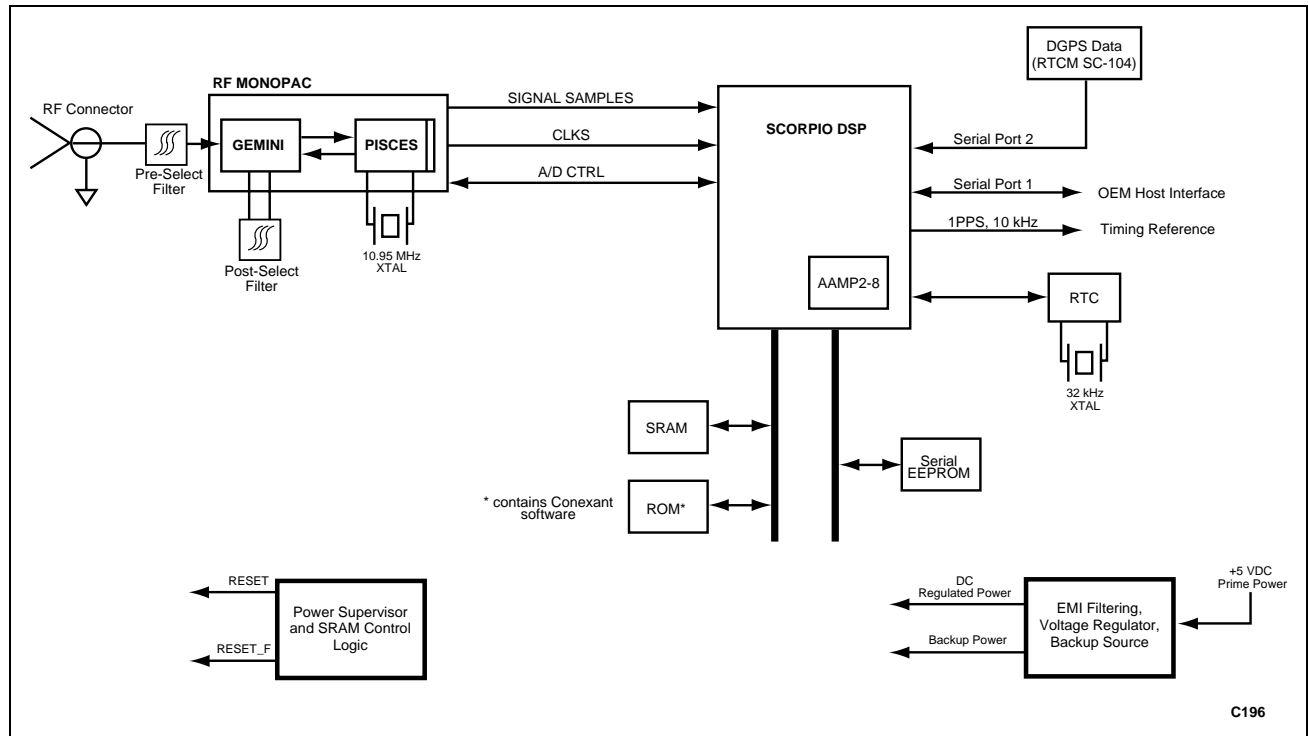

Figure 3. Jupiter Receiver Architecture
**Receiver Architecture.** The functional architecture of the Jupiter receiver is shown in Figure 3. The receiver design is based on the Conexant Zodiac chip set: the Gemini/Pisces MonoPac™ and the Scorpio DSP, which contain the required GPS functionality. The Gemini/Pisces MonoPac™ contains all the RF downconversion and amplification circuitry, and presents the In-Phase (I) and Quadrature-Phase (Q) Intermediate Frequency (IF) sampled data to the Scorpio device. The Scorpio device contains an integral microprocessor and all the required GPS-specific signal processing hardware. Memory and other external supporting components configure the receiver into a complete navigation system.